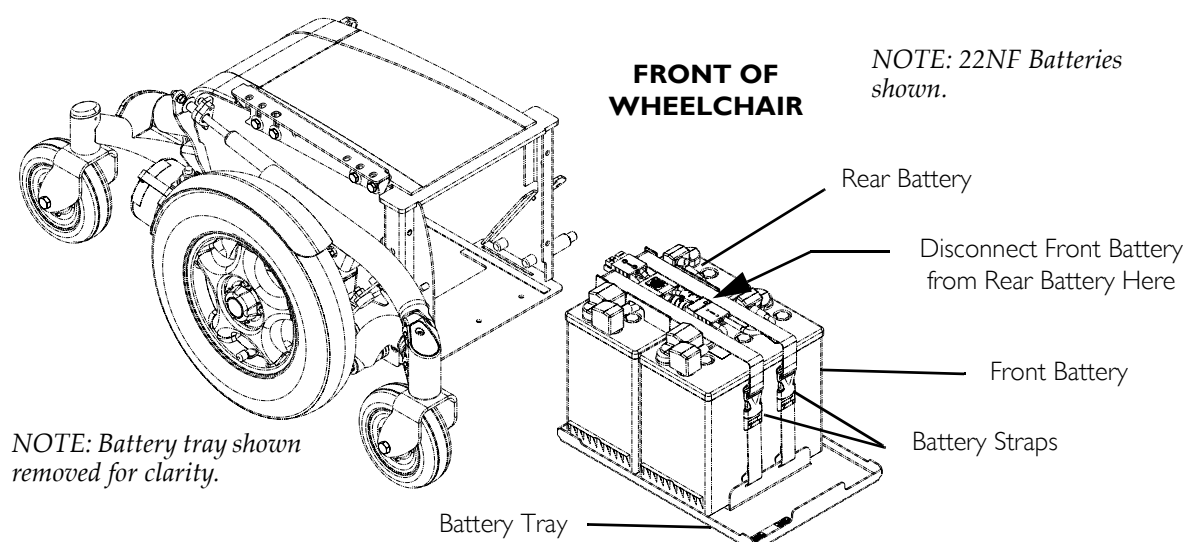
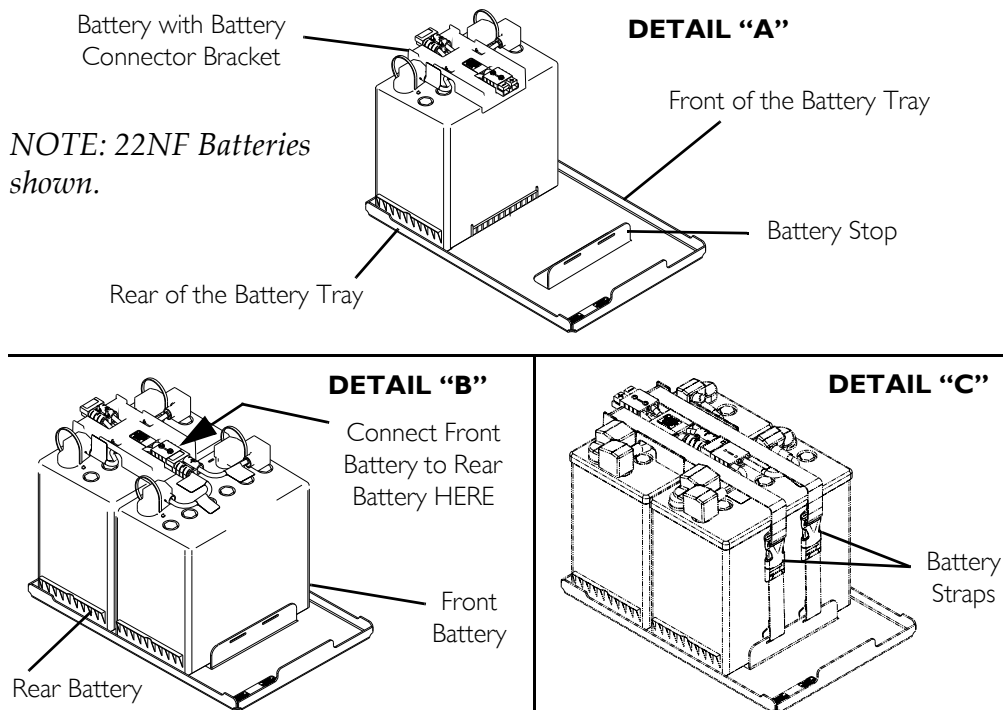

FIGURE 9.3 Removing the Batteries from Wheelchair
FIGURE 9.4 Installing Batteries into Wheelchair
NOTE: For this procedure, refer to FIGURE 9.3.
NOTE: For this procedure, refer to FIGURE 9.3 and FIGURE 9.4 on page 70.
NOTE: Positioning of the batteries into the battery tray is completed with battery tray positioned in wheelchair and partially pulled out. Refer to FIGURE 9.3 for full view of wheelchair base. Illustrations in FIGURE 9.4 on page 70 are shown without the wheelchair for clarification purposes only.
1. Position the battery with battery connector bracket in the rear of the battery tray in the orientation as shown. See Detail "A" of FIGURE 9.4 on page 70.
2. Position the remaining battery in the front of the battery tray in the orientation shown so that the wiring harnesses can be connected together. See Detail "B" of FIGURE 9.4 on page 70.
3. Connect front battery to rear battery. See Detail "B" of FIGURE 9.4 on page 70.
4. Connect battery straps. See Detail "C" of FIGURE 9.4 on page 70.
5. Slide the battery tray into the wheelchair (FIGURE 9.3).